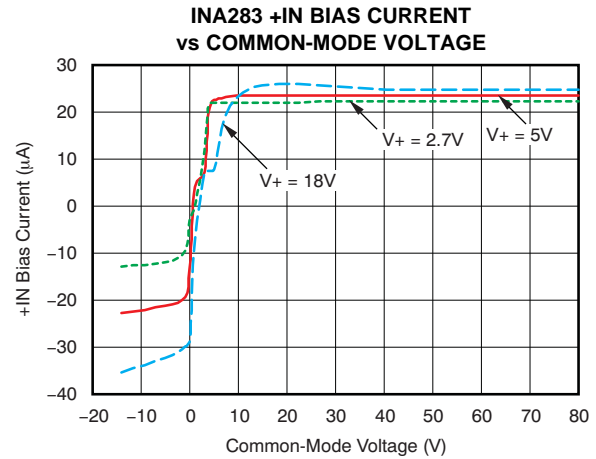

Figure 20.
(1) RTI = referred-to-input.
(2) See typical characteristic graph Figure 20.
(3) The average of the voltage on pins REF1 and REF2 must be between V_{GND} and the lesser of $(V_{GND}+9\text{V})$ and V_+ .